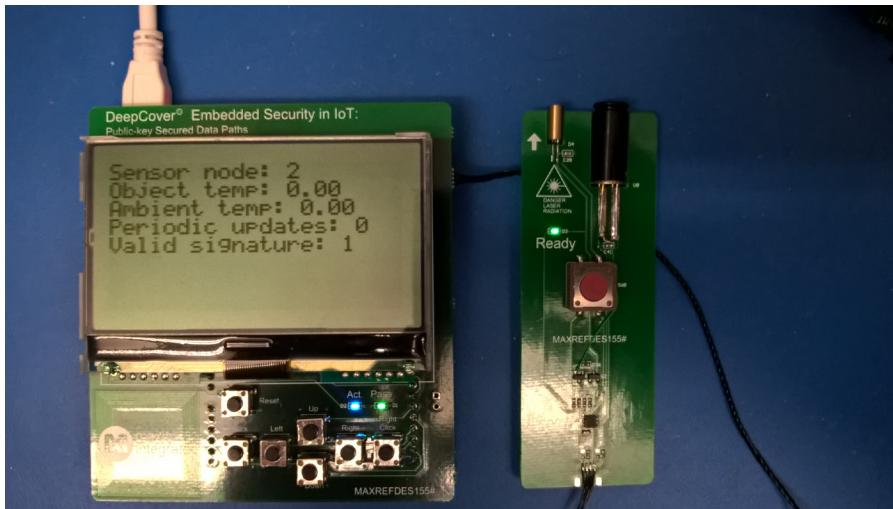

Figure 10. Sending valid signatures to the web server.
| Figure 10. Sending valid signatures to the web server. | 10 |
- Verify the mbed shield LCD screen shows a **Valid signature: 1** as shown in **Figure 10** indicating the mbed is sending valid signatures to the web server.